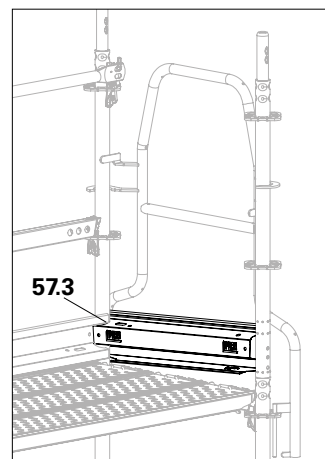

Fig. A3.06
5. Lower the toe board onto the deck. → The toe board is installed. (Fig. A3.06)